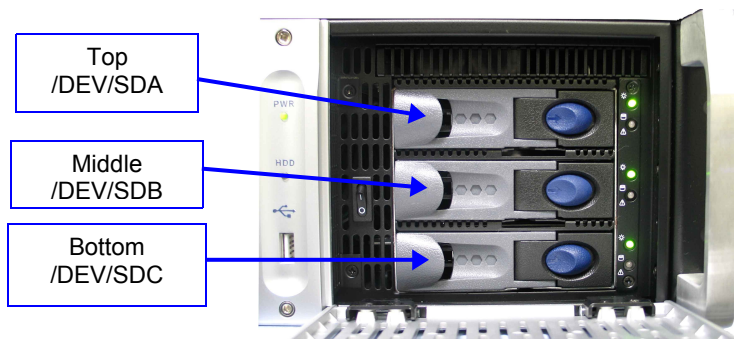

Figure 33: DCP-2000/DSV-J2 Horizontal HDD's Bay Positions
- For DCP-2000/DSV-J2 units fitted with horizontal drives (Figure 33):